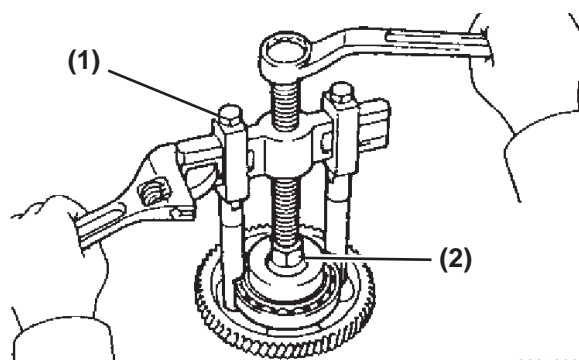

Figure 5-200
5. To replace the fuel injection pump drive gear bearing, remove the bearing using a suitable tool (**Figure 5-200, (1)**). Use the fuel injection pump drive gear nut (**Figure 5-200, (2)**) as a pressing point for the puller.